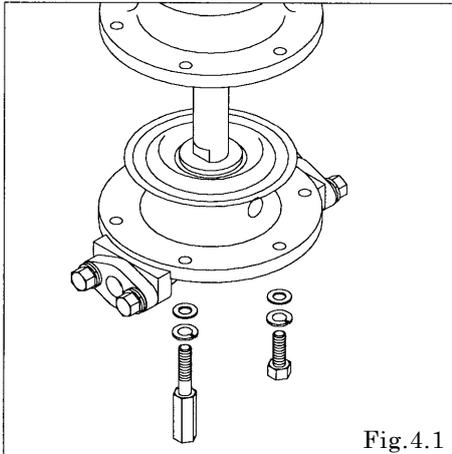

Fig. 4.1
- Remove 6 out chamber mounting bolts and studs respectively, and remove the out chamber. (AD-10, AD-25) [Fig. 4.1]
- Remove the 8 out chamber locking bolts, studs and nuts respectively, and remove the out chamber. (AD-40, AD-50) [Fig. 4.1]